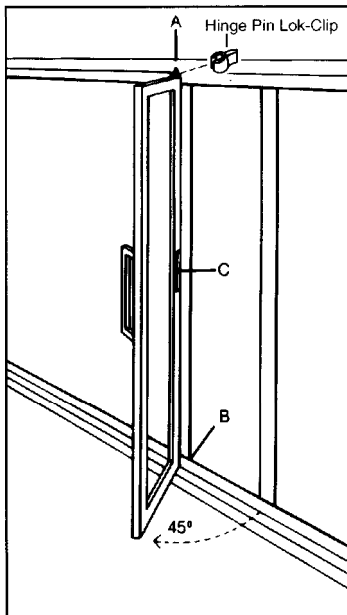

FIGURE 5
6. Select Lok Clip with proper thickness to fill space between top of door and outer frame (Figure 5).